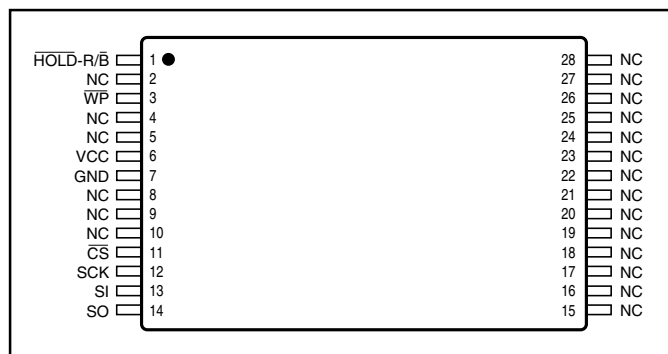

Figure 3. NX25F011A and NX25F041A Pin Assignments, 28-Pin TSOP (Type I)
The NX25F011A and NX25F041A are available in a 28-pin TSOP (Type I) surface mount package. See Figure 3 and Table 1 for pin assignments. All interface and supply pins are on one side of the package. The “No Connect” (NC) pins are not connected to the device, allowing the pads and the area around them to be used for routing PCB system traces. The devices are also available in a cost-effective and space-efficient removable Serial Flash Module package (see NX25Mxxx data sheet).